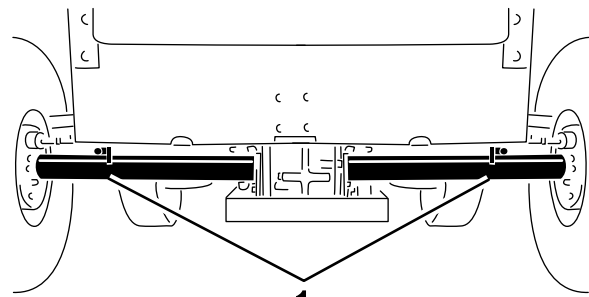
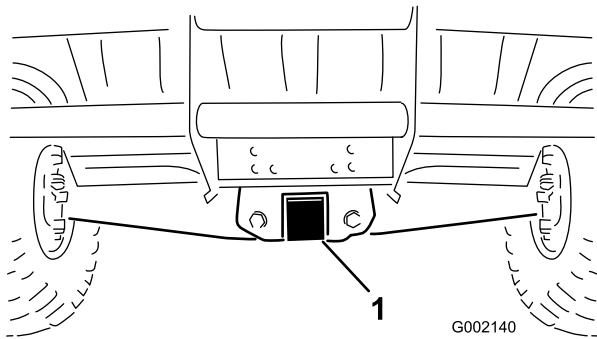

Figure 27
Figure 28
For moving the vehicle long distances, a trailer should be used. Make sure that the vehicle is secured to the trailer. Refer to Figure 27 and Figure 28 for the location of the tie-down points.
2. Affix a tow line to the tongue on the front of the frame (Figure 28).